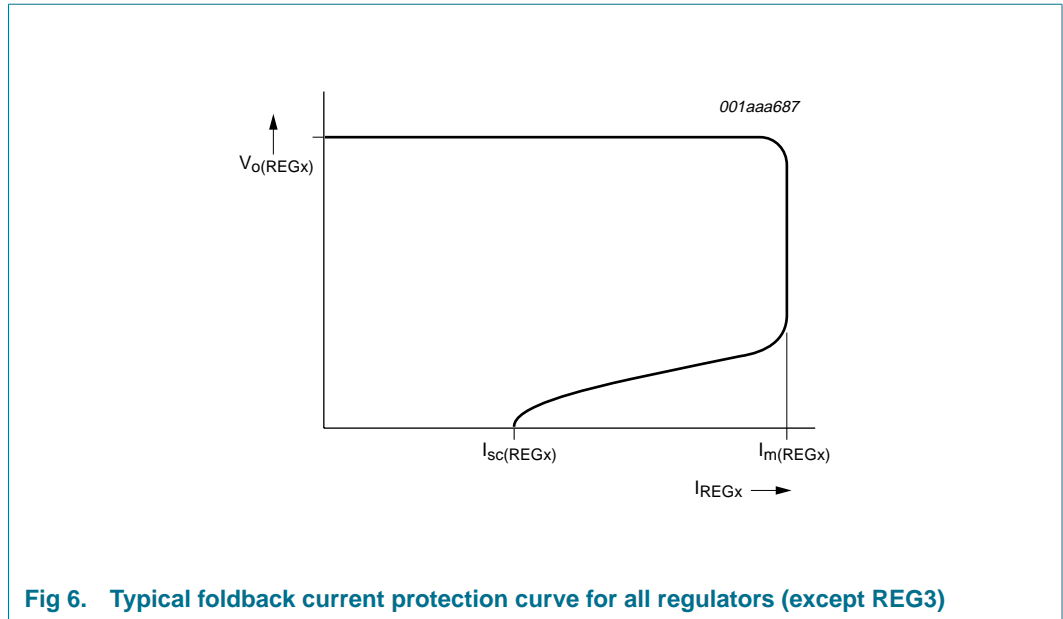

Fig 6. Typical foldback current protection curve for all regulators (except REG3)
- [7] At current limit, $I_{m(REGn)}$ is held constant; see Figure 6.
- [8] The foldback current protection limits the dissipated power at short circuit; see Figure 6.